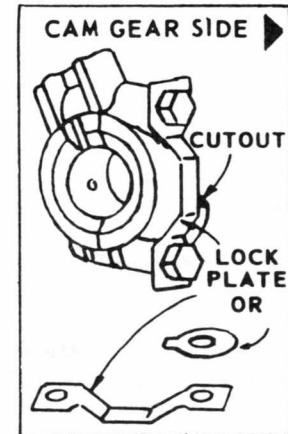

FIGURE 7-9
8. Put the rod and rod cap on the crankshaft. See figure 7-9.